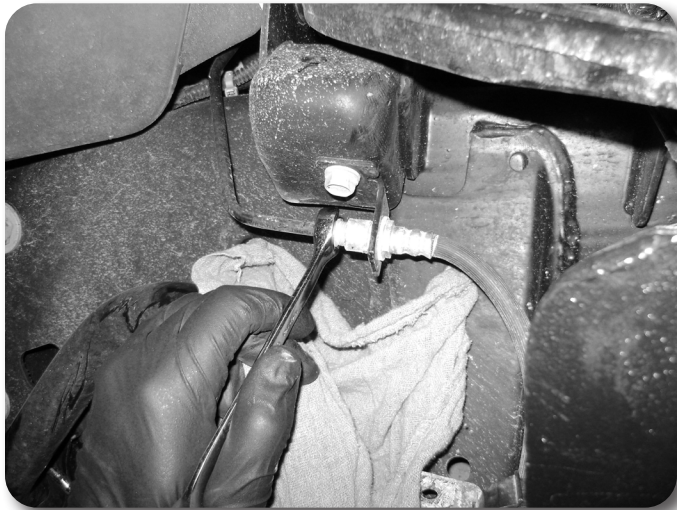
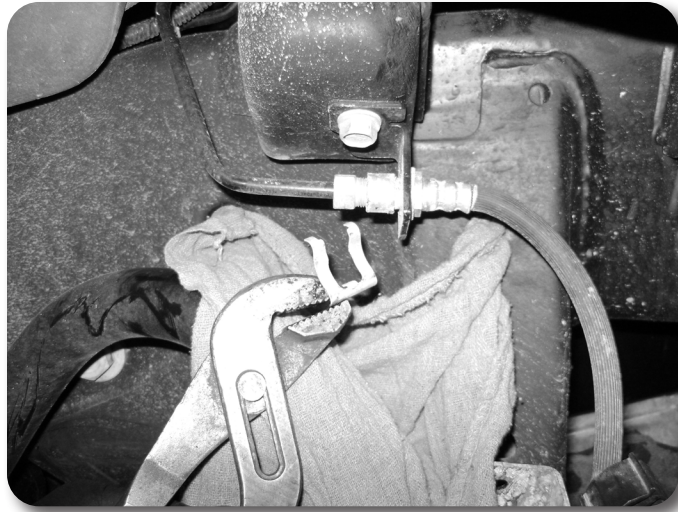

Figure 43A
Figure 43B
60. Locate the factory brake line junction at the frame where the hard line and rubber line meet. **Figure 43A** Using a 13mm line wrench disconnect the hard line from the rubber line. Remove the retaining clip and pull the line from the frame bracket. **Figure 43B** Place a bucket, etc under the hard line to catch any brake fluid drips.